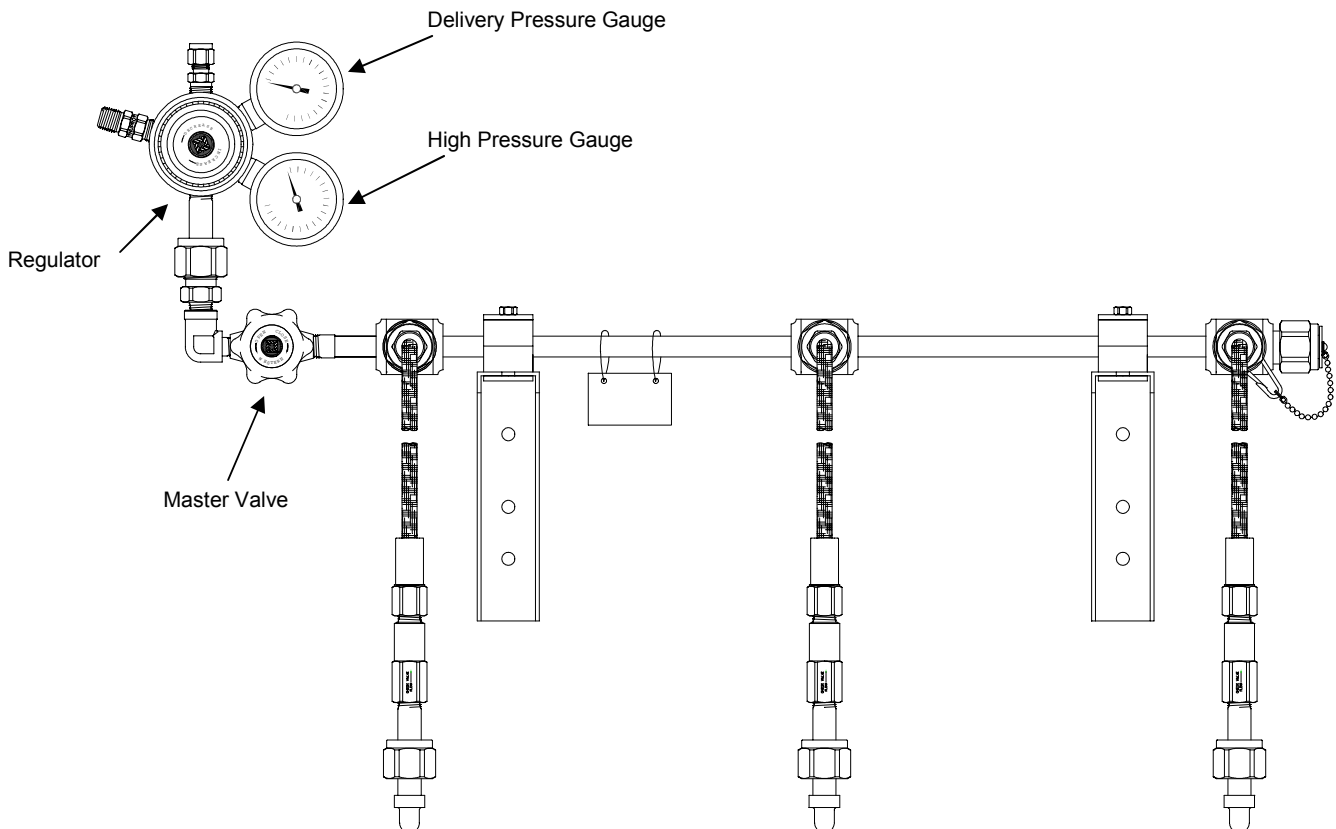

FIGURE 12
1. S-L-O-W-L-Y open the master valve (turn counter-clockwise to open) The high pressure gauge will show the full pressure of the right bank of cylinders. (Figure 12)